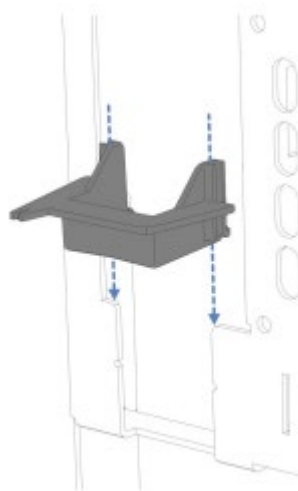

Figure 47: Installing the insulation cover mounting bracket
- Reinstall the insulation cover mounting bracket by pushing it into the guide rails and moving it down until it snaps into place (Figure 47).